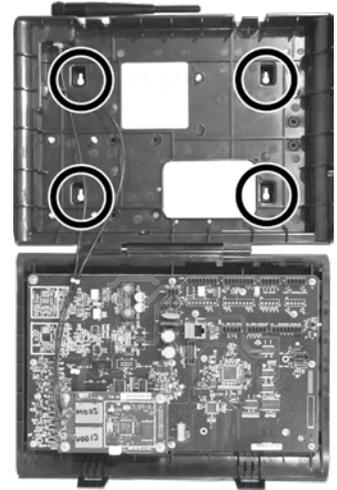

Figure 6. Open base station showing four screw holes
1. Hold the base station against the wall with its door open, and mark the wall through the four screw holes on the back of the cabinet (Figure 6).